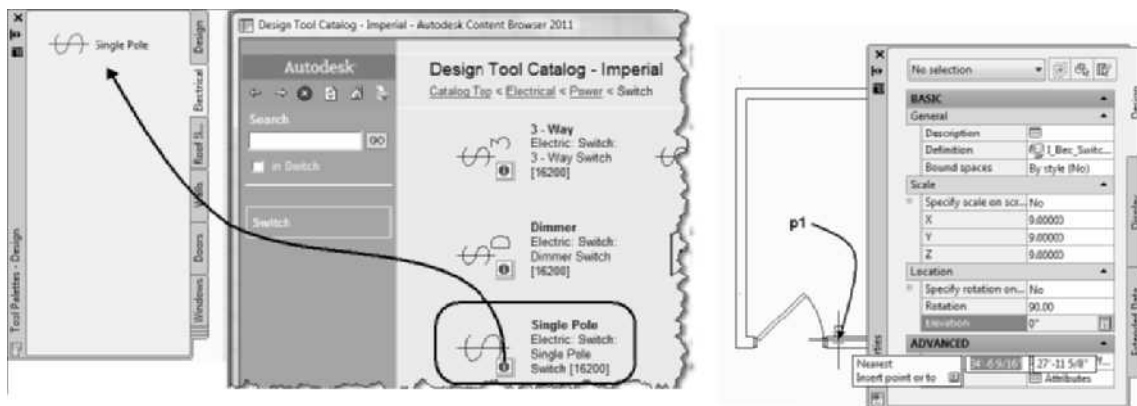

FIGURE 10.13 Selecting Single Pole Switch from the Design Tool Catalog—Imperial
7. Select Content Browser from the Tools flyout of the Build panel in the Home tab. Open the Design Tool Catalog—Imperial to the Electrical > Power > Switch palette as shown in Figure 10.13.
10. Move the cursor over the workspace and select a location along the bottom wall using the Nearest object snap near p1 as shown in Figure 10.13. Press ESC to end the command.